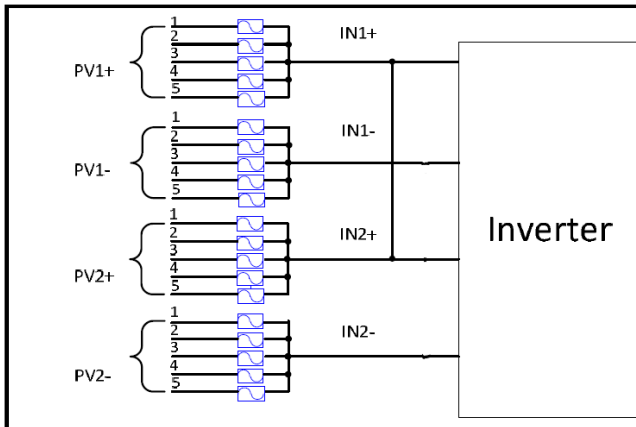
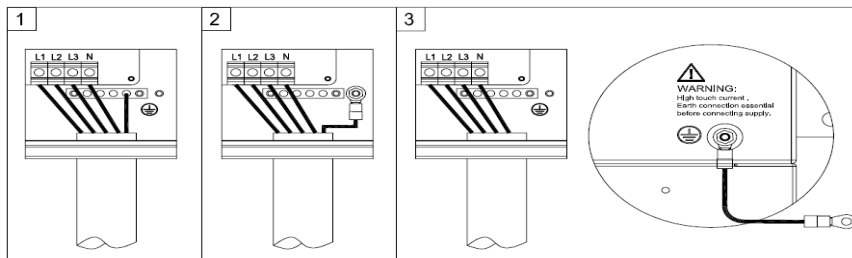

Figure 2.27 - Two MPPTs Combined to Operate as One
Figure 2.29 - AC Output and Ground Cable Connections
(1) Connect the AC (L1, L2, L3, N) cables to the terminal block and use the OT type terminal to connect the ground cable to the internal grounding stud inside the wiring box. (see the 2nd graph in Figure 2.27) Set up the cables referring to Figure 2.29.